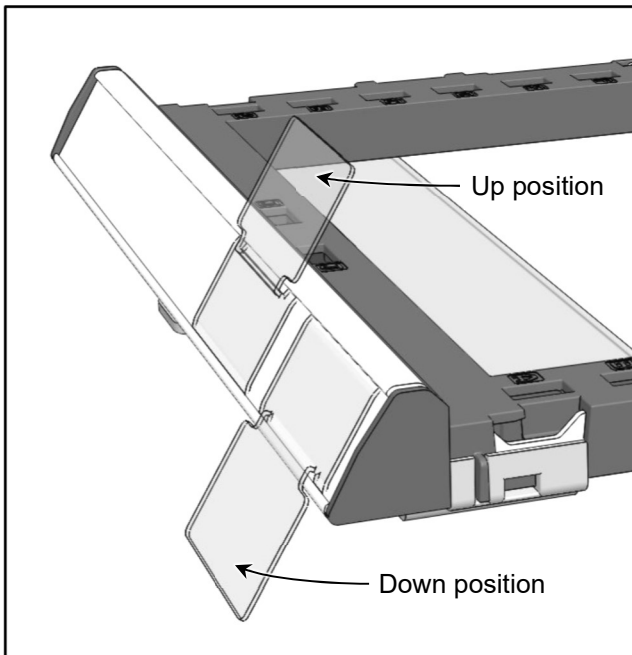

Figure 29
4. The Price Tag Holder can be installed in the “up” or “down” position (See Figure 29). Confirm position with the store manager.